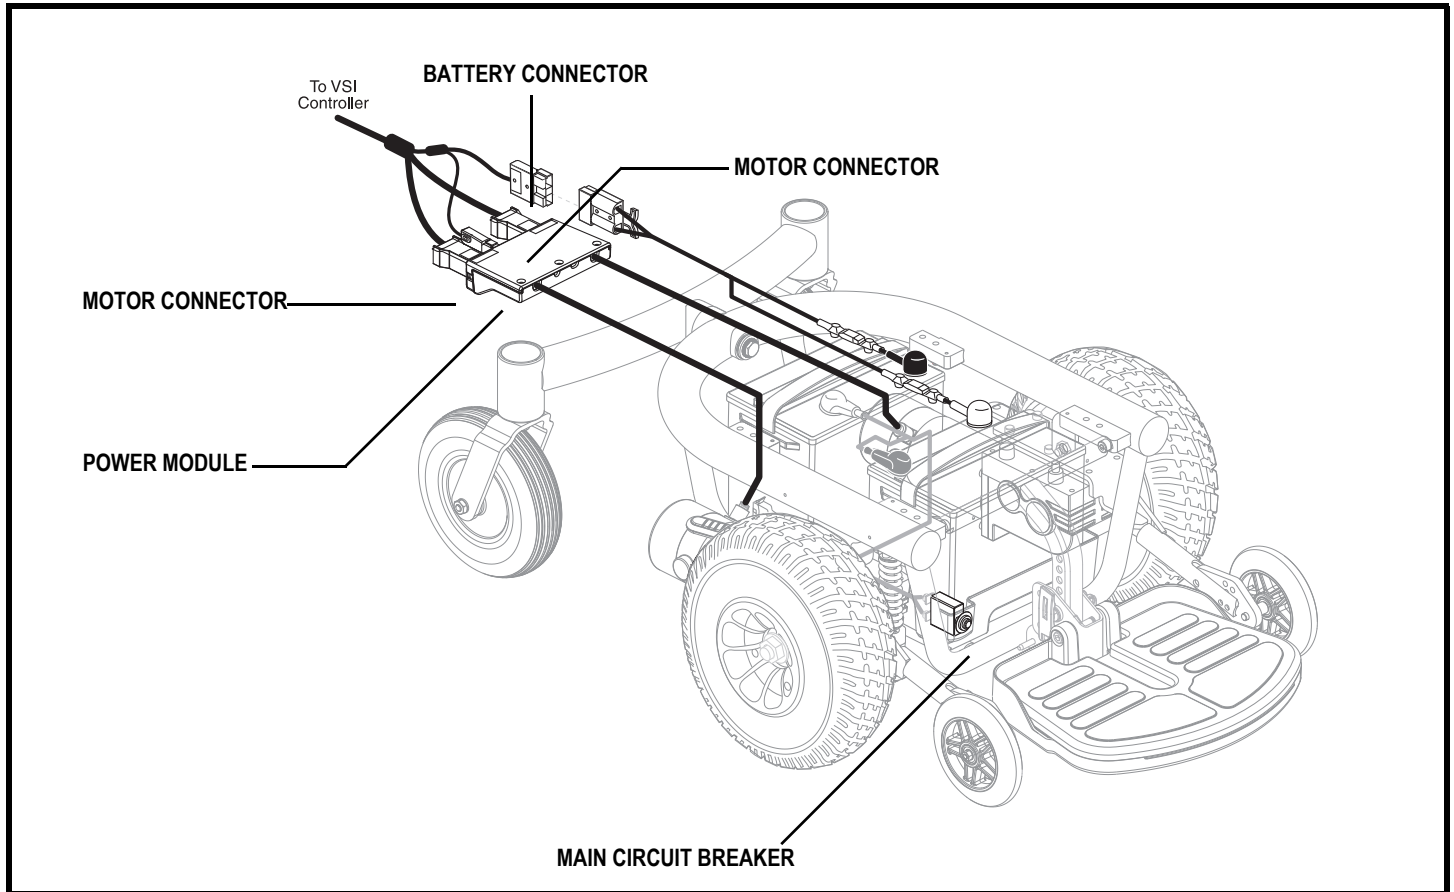

Figure 7. Quantum 1103 Ultra Electrical Components
The electrical components are located on the power base. The main circuit breaker is located on the front of the battery tray. The controller connector and the motor connectors are located on the power module, inside the power base. See figure 7.
8. Plug the controller connectors into the power module and connect the battery connector. See figure 7.
3. Disconnect the controller connectors from the power module. **See figure 7.**